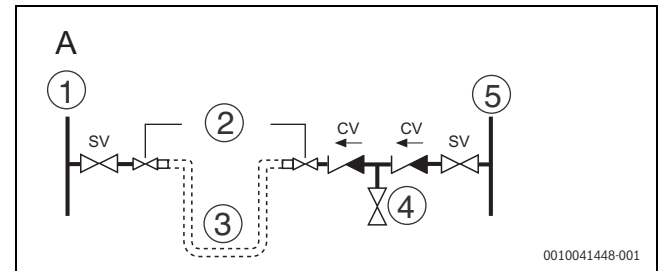

Fig. 10
- The CH sealed system must be filled using an approved filling loop or comply with figure 10, p. 13 for system fill.